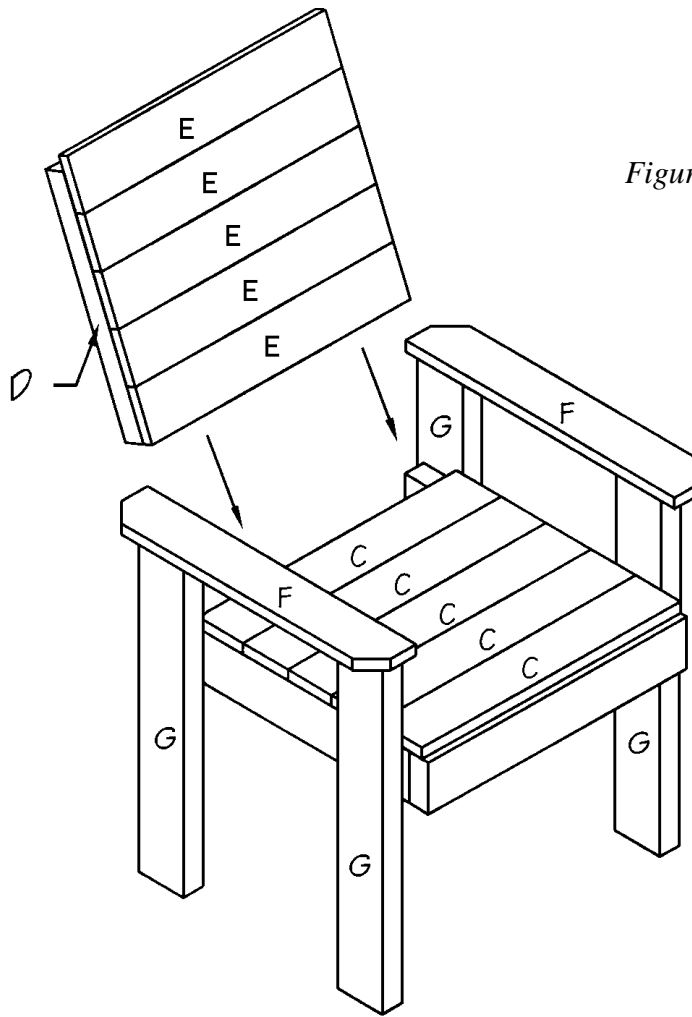

Figure 6
1. Draw a line across the inside of each Arm Support (G), 18 inches from the unattached end. This will be the placement line for the next step.
2. This step is easier with a helper. The object is to clamp the assembled seat between the two side assemblies (as shown in *Figure 6*), and then to secure the seat with carriage bolts. The top of the seat should be positioned at the placement marks that you drew on the Arm Supports (G). The front Arm Supports (G) should be positioned 2 inches from the front of the seat assembly. When the sides are in position, clamp the two sides and seat assemblies tightly together using bar clamps.
3. Drill a hole slightly larger than the diameter of the 3-1/2" carriage bolt through the center of each of the Arm Supports (G) into the Seat Sides (B). Then insert a 3-1/2" carriage bolt through each of the holes. Tighten the bolts securely.